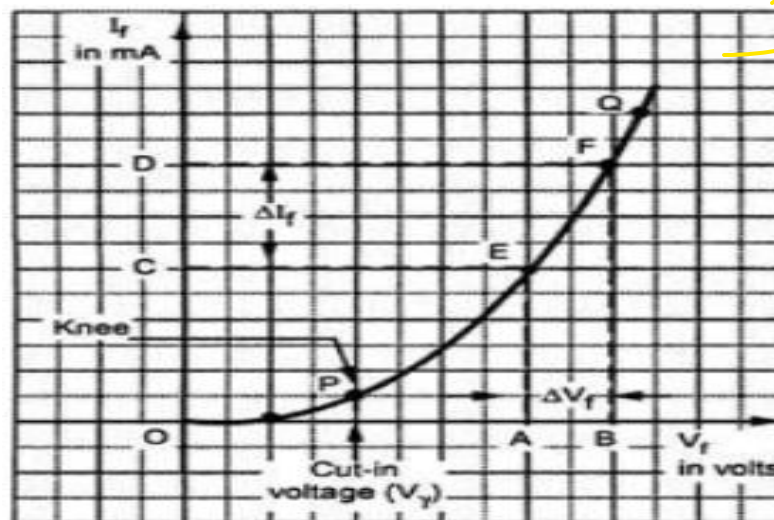

Fig. 1.6 Forward characteristics of a diode
- The graph of forward current I_f against the forward voltage V_f across the diode is called forward characteristics of a diode and is shown in fig. 1.6.
- **Region O to P (From Fig. 1.6):**
- **Region P to Q and onwards (From Fig. 1.6):**
- This increase in the current is exponential as shown in the Fig. 1.6 by the region P to Q.
- Consider the change in applied voltage from point A to B shown in the Fig. 1.6 and denoted as ΔV_f .